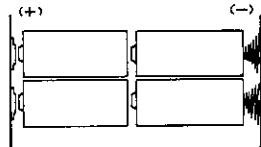

Fig. 2
2. Install 4 "D" size (UM-1) flashlight batteries carefully as indicated, placing the strip at the bottom for easy battery replacement (Fig. 2).